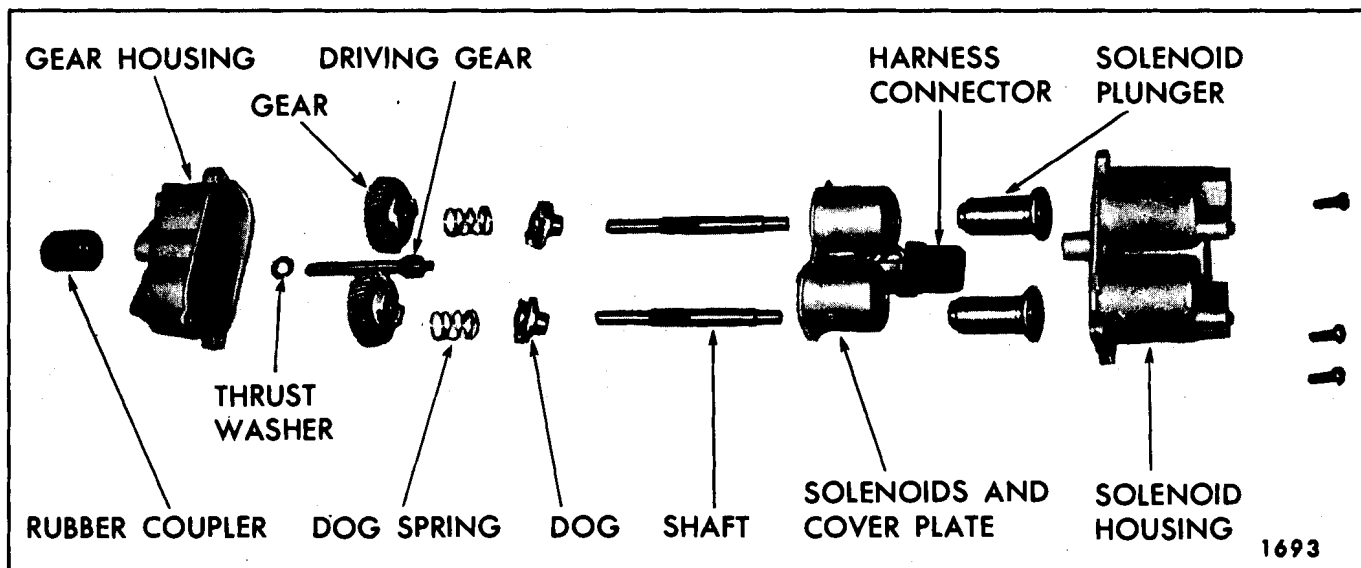

Fig. 14-16-Four-Way Seat Adjuster Transmission
2. Remove screws securing gear and solenoid housings together; then, carefully separate housings and remove component parts of transmission assembly (Fig. 14-16).